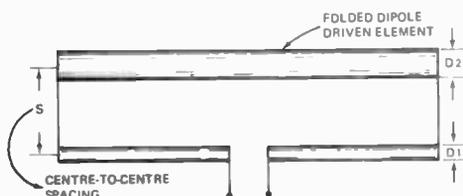

Fig. 3. Folded Dipole Impedance Match.
technique and the gamma and/or omega match. These techniques are illustrated in Figs. 3 and 4.
For folded dipoles, the impedance transformation depends on the spacing to diameter ratios. Table 1 gives values for these ratios (with reference to Fig. 3) for common impedance multiplying factors.
*Fig. 3. The Yellow Springs Instrument Co. aspirated psychrometer. The righthand view shows the unit packed for transportation. Thermistors are used as temperature sensors.*